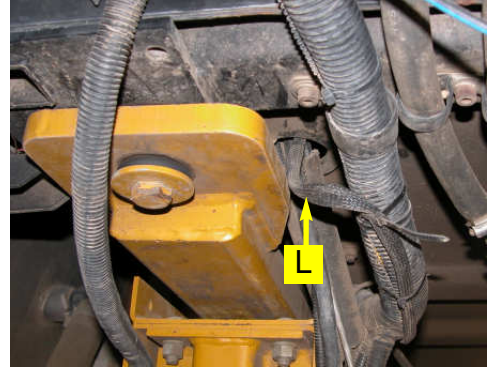

Figure 7a. Routed valve interface cable.
- a. Route the valve interface cable (L) into the cab through the floor at the right, rear corner of the cab. (Figure 7a.)